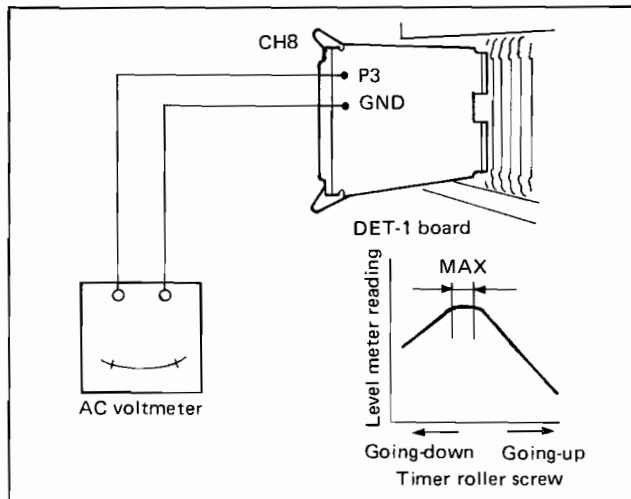

Fig. 5-12
3. Check at the tape guide lower flange within the HBU that there are no clearance and curl. (Fig. 5-12).